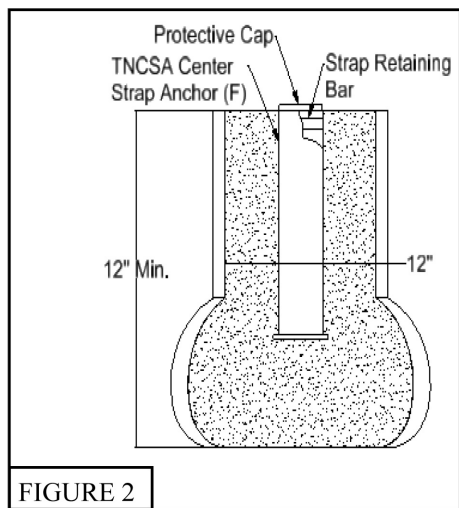

FIGURE 2
- Dig one 8" round and a minimum 12" deep hole centered between the two pickleball posts (make sure to bell out the bottom of the hole). Insert *TNCSA Center Strap Anchor* (F) with the strap retaining bar running parallel with the *PK10NXL Net* (D) and fill hole with concrete. The hole will require 2 to 3 1/3 cubic bags of concrete. See Figure 2.
- Concrete must cure 7-10 days before continuing with *PK10NXL Pickleball Net* (D) installation.
- Stretch out *PK10NXL Pickleball Net* (D) across the court.
- Attach *TN10CS Center Court Hold Down Strap* (E) to the strap retaining bar in the *TNCSA Center Strap Anchor* (F). Adjust *TN10CS Center Court Hold Down Strap* (E) so top of *PK10NXL Pickleball Net* (D) measures 34" at the center. See Figure 2.